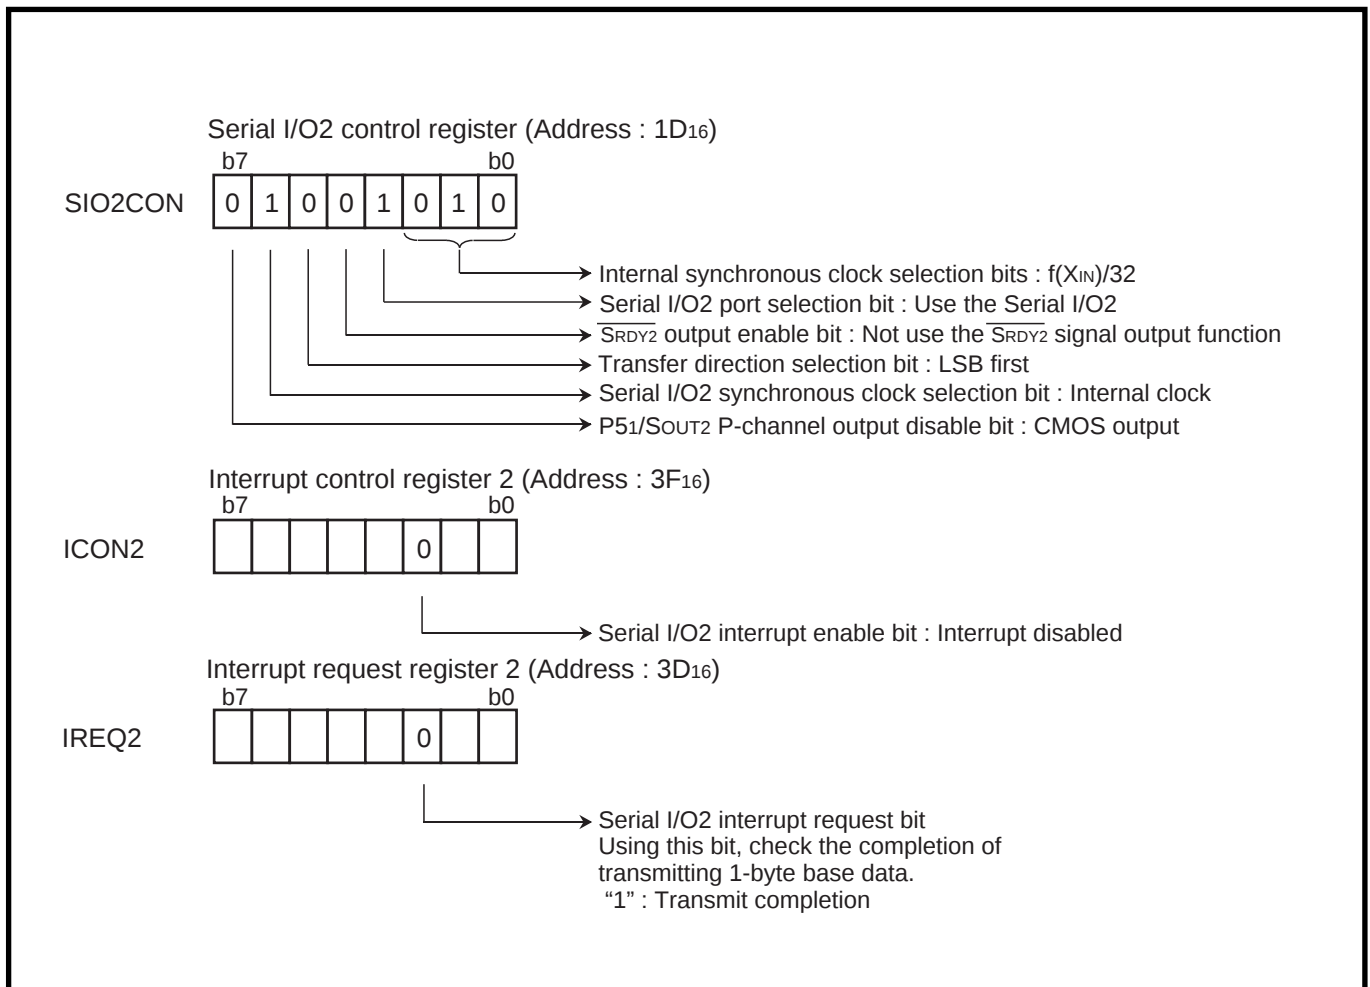
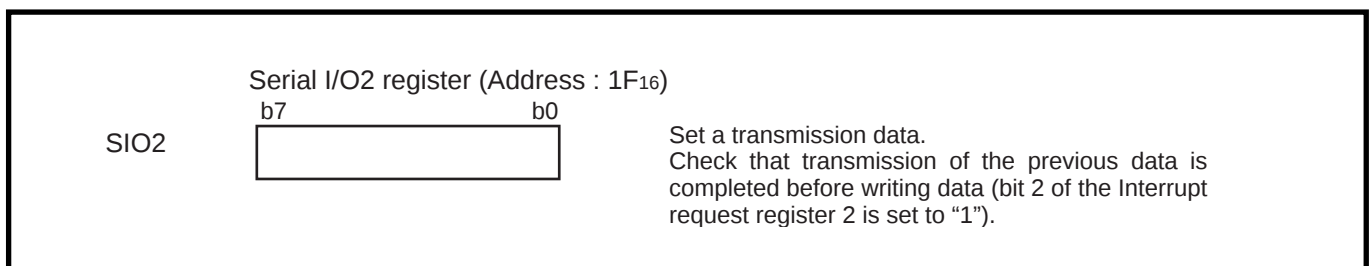

Fig. 2.3.28 Setting of serial I/O2 related registers [Output of serial data]
Fig. 2.3.29 Setting of serial I/O2 transmission data [Output of serial data]
Figure 2.3.28 shows a setting of serial I/O2 related registers, and Figure 2.3.29 shows a setting of serial I/O2 transmission data.
**Control procedure :** When the registers are set as shown in Fig. 2.3.28, the Serial I/O2 can transmit 1-byte data simply by writing data to the Serial I/O2 register. Thus, after setting the CS signal to “L,” write the transmission data to the Serial I/O1 register on a 1-byte base, and return the CS signal to “H” when the desired number of bytes have been transmitted. Figure 2.3.30 shows a control procedure of serial I/O2.